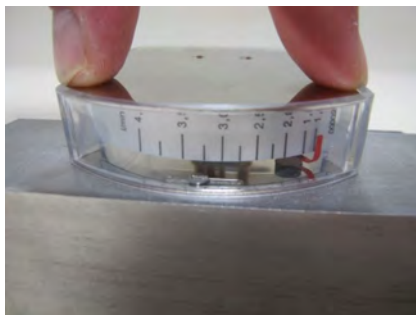

Fig. 65
24. ▶ Insert the display cover plate into the plastic housing and gently press (Fig. 65) until it snaps into place.